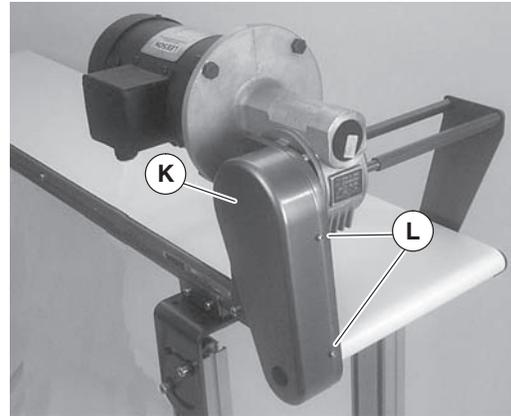

Figure 18
- Install cover (Figure 18, item K) with four screws (L). Tighten to 35 in-lb (4 Nm).
1. Remove four screws (Figure 18, item L) and remove cover (K).
4. Install cover (Figure 18, item K) with four screws (L). Tighten to 35 in-lb (4 Nm).
6. Install cover (Figure 18, item K) with four screws (L). Tighten to 35 in-lb (4 Nm).